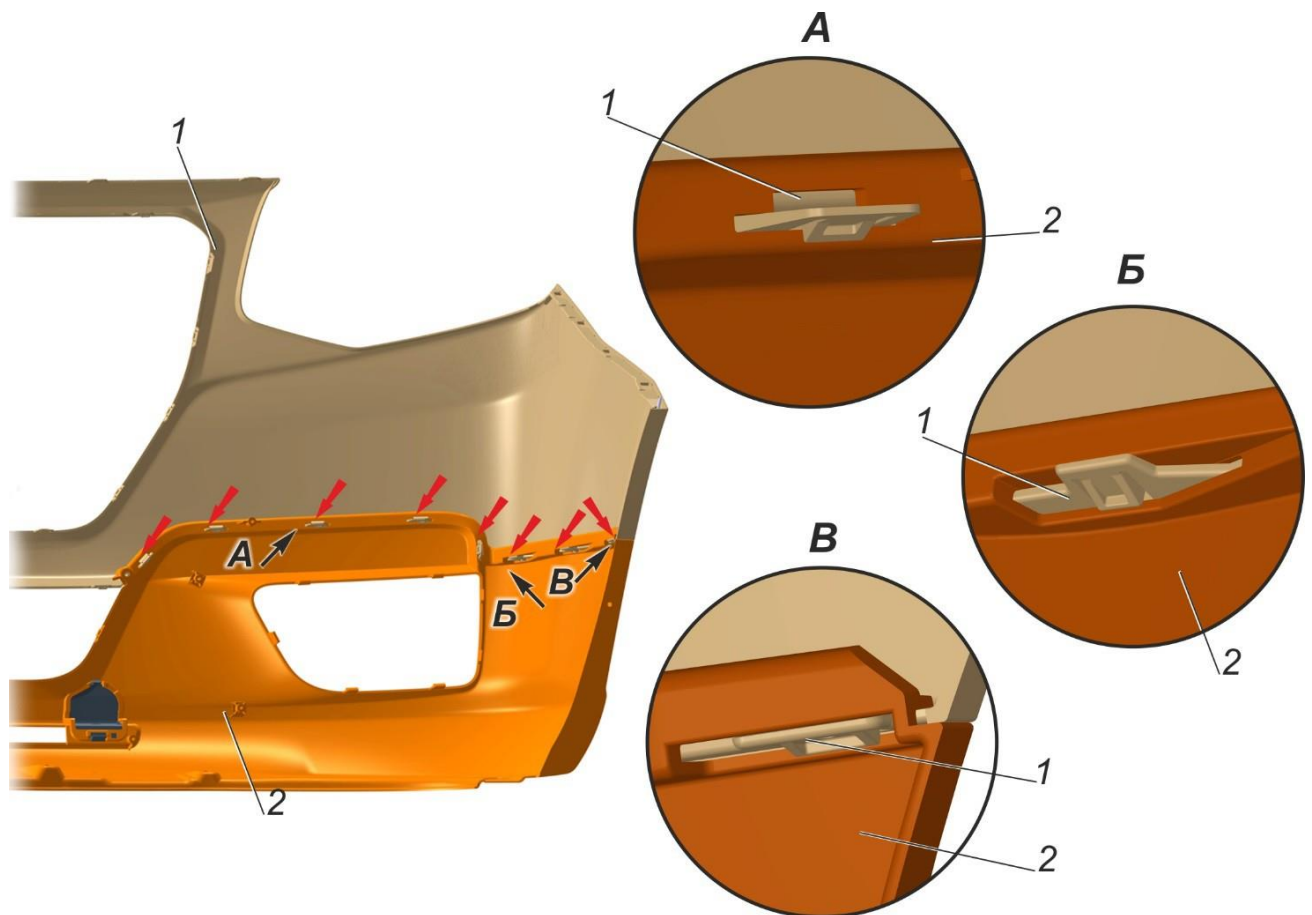

Fig. 8.15. Fasteners securing upper panel to lower panel of front bumper: 1 – front bumper panel (upper); 2 - front bumper panel (lower)
- disengage the latches of the front bumper upper panel from the lower panel and disconnect the upper panel from the front bumper lower panel. The fasteners securing the front bumper upper panel to the lower panel are shown in Fig. 8.15: